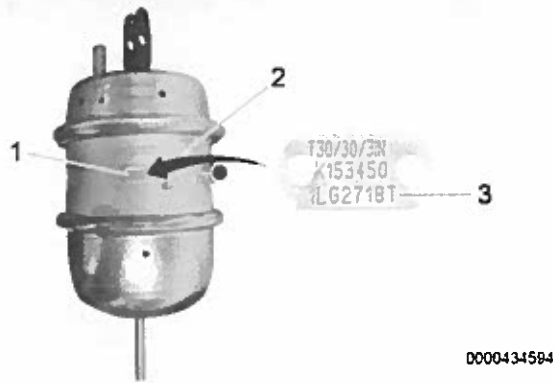

Figure 1. Spring Brake Assembly
4. Inspect rear axle spring brake assemblies (Figure 1, Item 2) for suspect lot numbers (Figure 1, Item 3) 1LF1818T or 2LF1818T found on identification tag (Figure 1, Item 1).